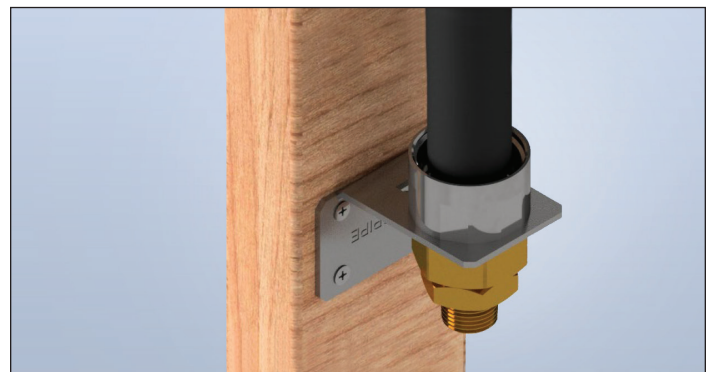

Figure: 1-8
8. Slide the Nut against the Key Valve Bracket ensuring one hex flat of the Nut is resting against the hex ledge of the Key Valve Bracket. Thread and tighten the Floppy Conduit Adapter onto the Nut to secure the assembly to the Key Valve Bracket (Figure 1-8).